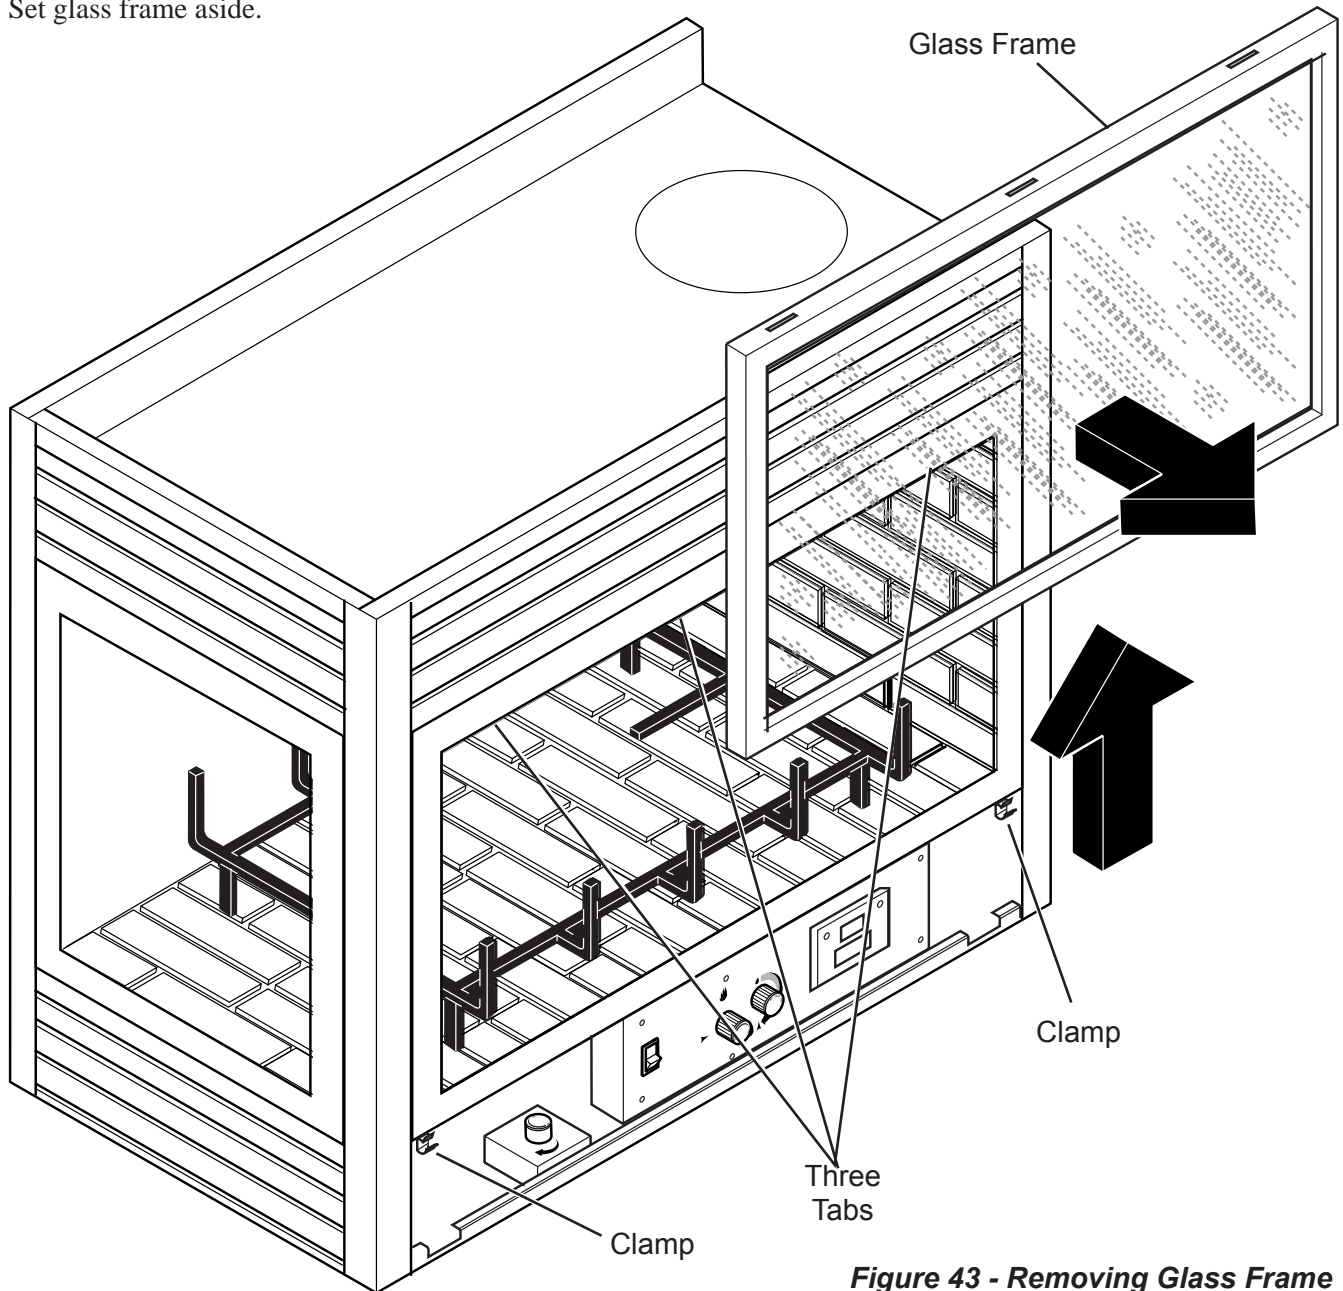

Figure 43 - Removing Glass Frame
1. Release two clamps on bottom of fireplace. *See Figure 43.*